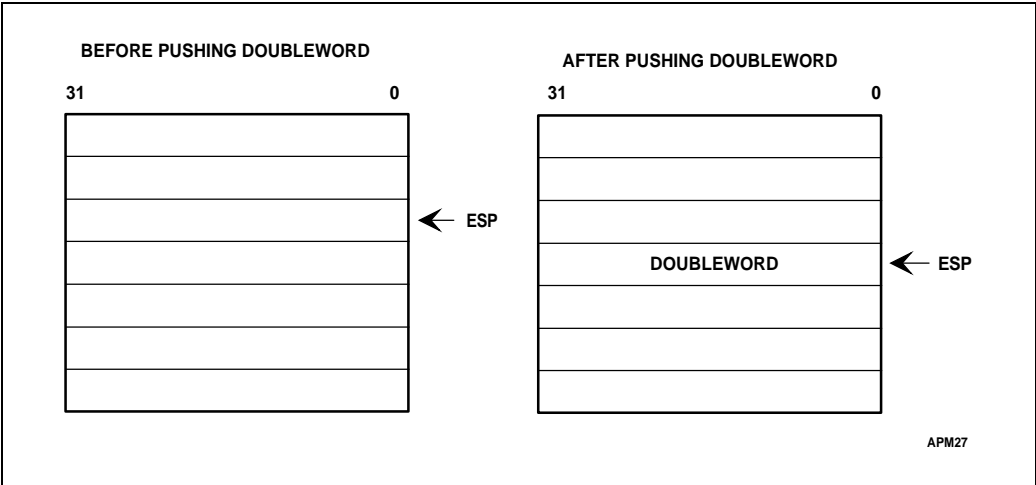

Figure 4-1. PUSH Instruction
**PUSH (Push)** decrements the stack pointer (ESP register), then copies the source operand to the top of stack (see Figure 4-1). The PUSH instruction often is used to place parameters on the stack before calling a procedure. Inside a procedure, it can be used to reserve space on the stack for temporary variables. The PUSH instruction operates on memory operands, immediate operands, and register operands (including segment registers). A special form of the PUSH instruction is available for pushing a 32-bit general register on the stack. This form has an encoding which is one byte shorter than the general-purpose form.